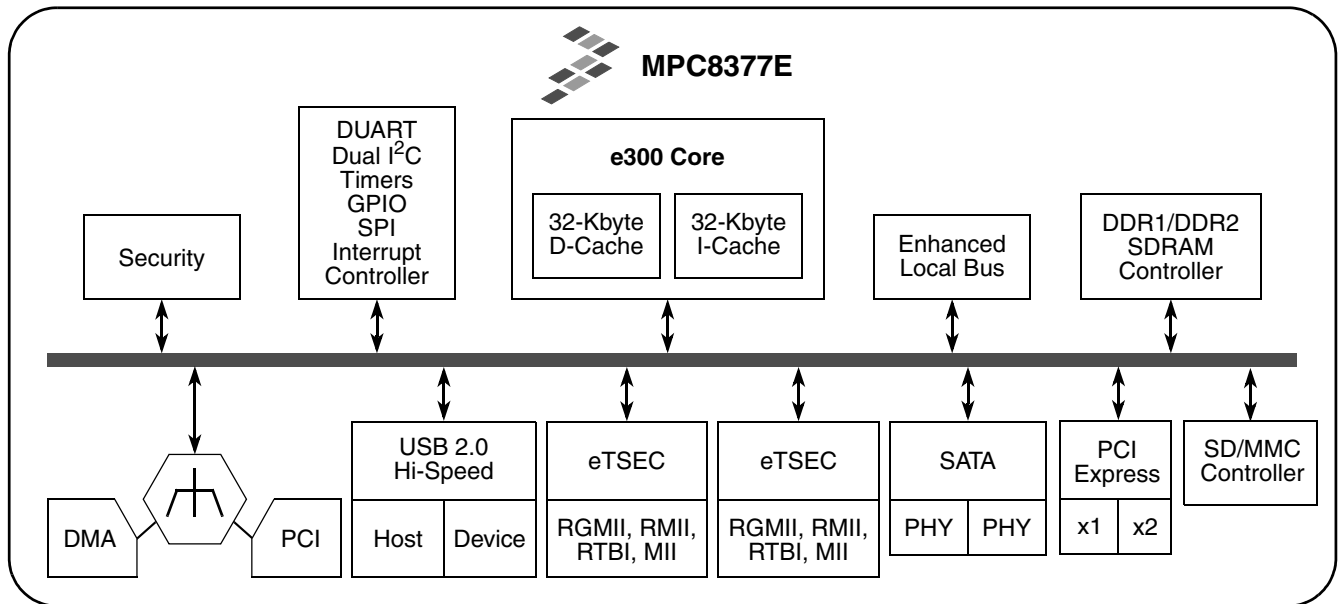

Figure 1. MPC8377E Block Diagram and Features
2.0 dual-role controller, a programmable interrupt controller, dual I²C controllers, a 4-channel DMA controller, an enhanced secured digital host controller, and a general-purpose I/O port. Figure 1 the block diagram of the MPC8377E.